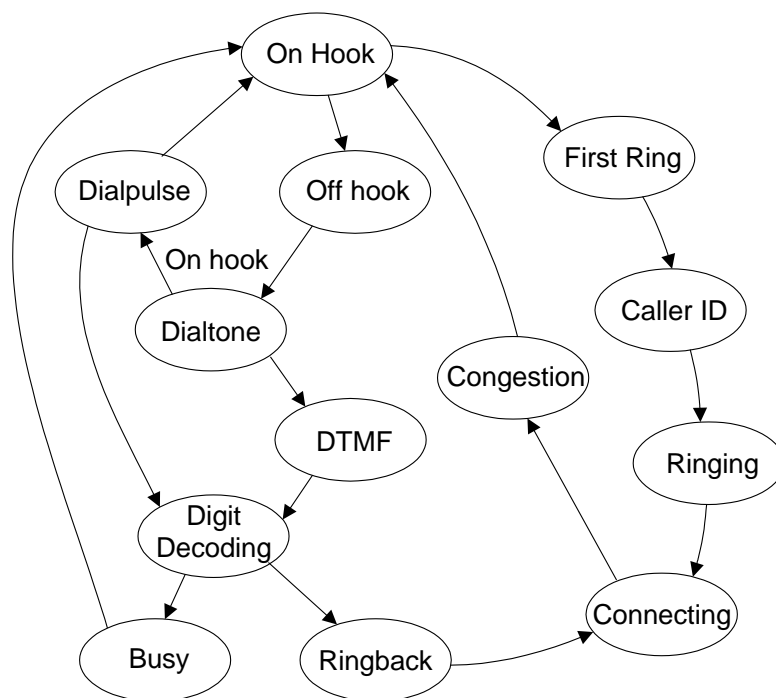

Figure 4. State Machine
The main program serves as a demo on how to create a PBX. The files used to accomplish the demo and console interface are explained in Table 2 on page 6. Figure 4 contains the basic PBX state machine.
- Added Figure 4, “State Machine”.